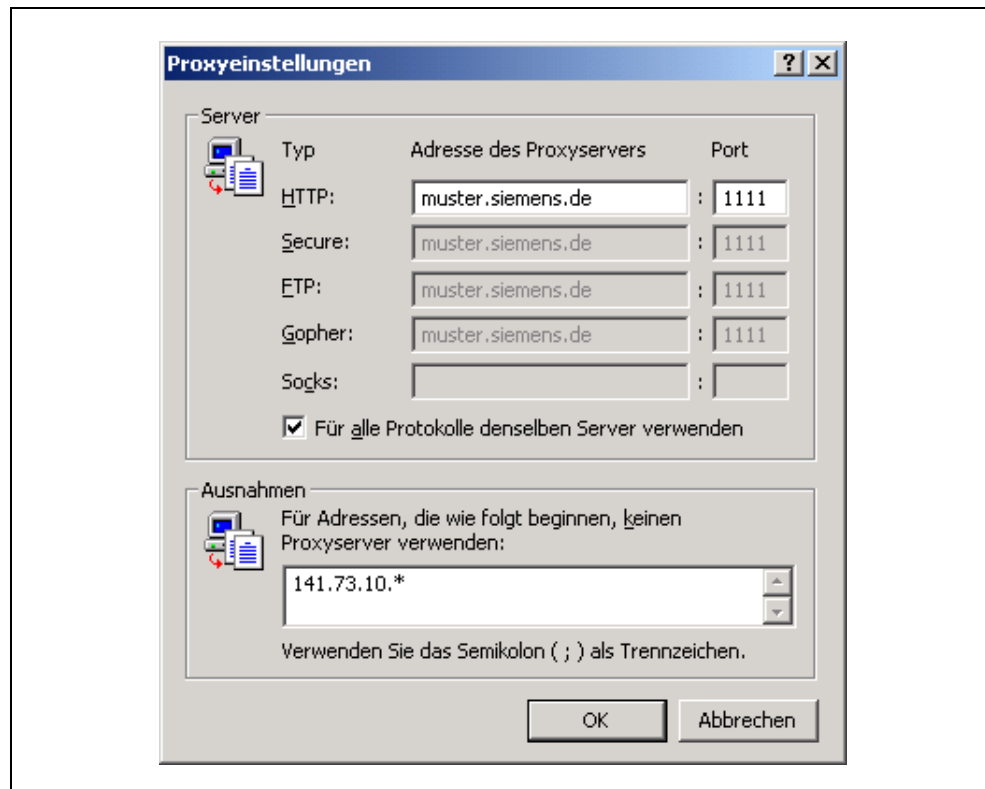

Figure 6-22 Microsoft Internet Explorer – Proxy Settings
5. In this window, disable the proxy server by clicking the "Use a proxy server for your LAN" check box or click the "Advance" button to open the dialog shown in Figure 6-22. Here you can enter the addresses for which the proxy server is not used.